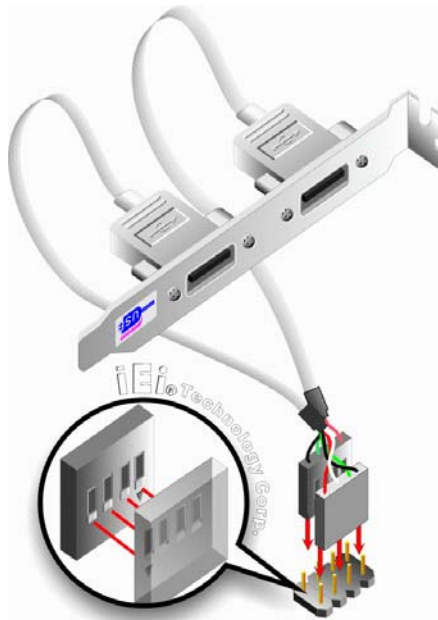

Figure 5-18: Dual USB Cable Connection
Step 3: Insert the cable connectors Once the cable connectors are properly aligned with the USB connectors on the PCIE-9452, connect the cable connectors to the onboard connectors. See **Figure 5-18**.